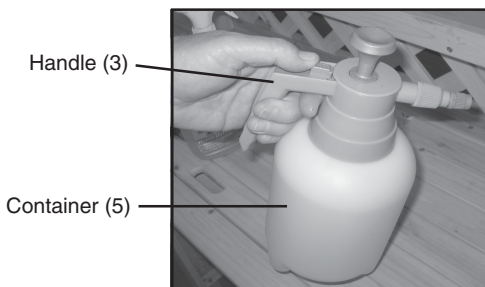

Figure 1
1. Unscrew the Handle (3) assembly with lid from the Container (5), and pour up to 2 liters of water or prepared liquid mixture into the Container (5). **See Figure 1.**
2. Replace the Handle (3) assembly, and screw it tightly back into place.